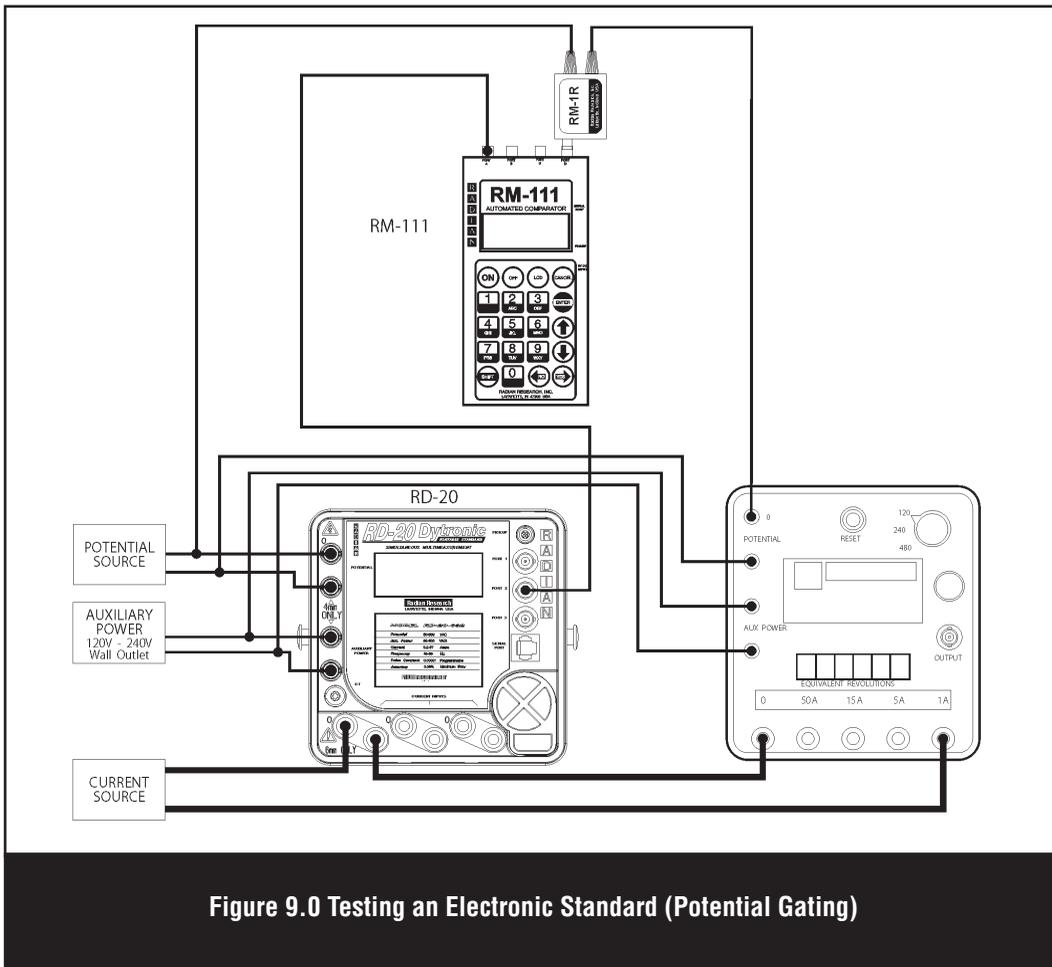

Figure 9.0 Testing an Electronic Standard (Potential Gating)
8. If not already completed, follow the prompts on the RM-111 to make the appropriate connections. See Figure 9.0 “Testing an Electronic Standard (Potential Gating)” for the applicable wiring diagram. The number of reference standards defined in the test setup determine how the ports are configured. In this application, there is one RM or RD Primary Reference Watthour Standard that is connected to Port A. The RM-1R Mechanical Relay will connect to Port D.